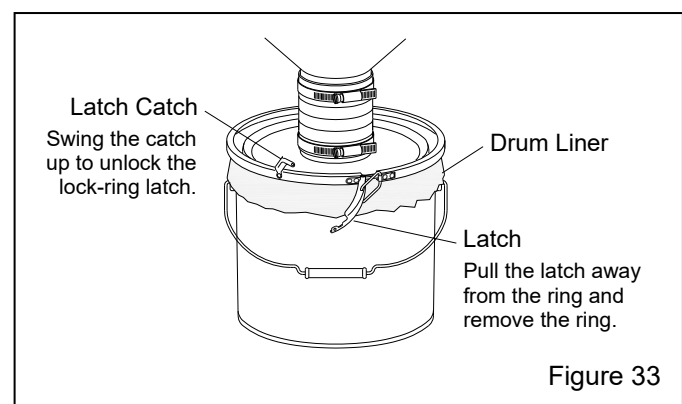

Figure 33
#### 7.11 Replacing Filter Cartridge – Figures 33 and 34
**7.11.2** Refer to Figure 33 and unlatch the dust container lid, pry off the lid from the container (the lid's flexible inlet hose allows easy removal), and remove the container.
**7.11.11** Refer to Figure 33 and place a new liner inside the container and drape it over the top edge. Reattach the container to the lid and latch the lock ring, making sure the lid and clamp are secure. Replacement liners are shown in Sections 9.13 and 9.14.